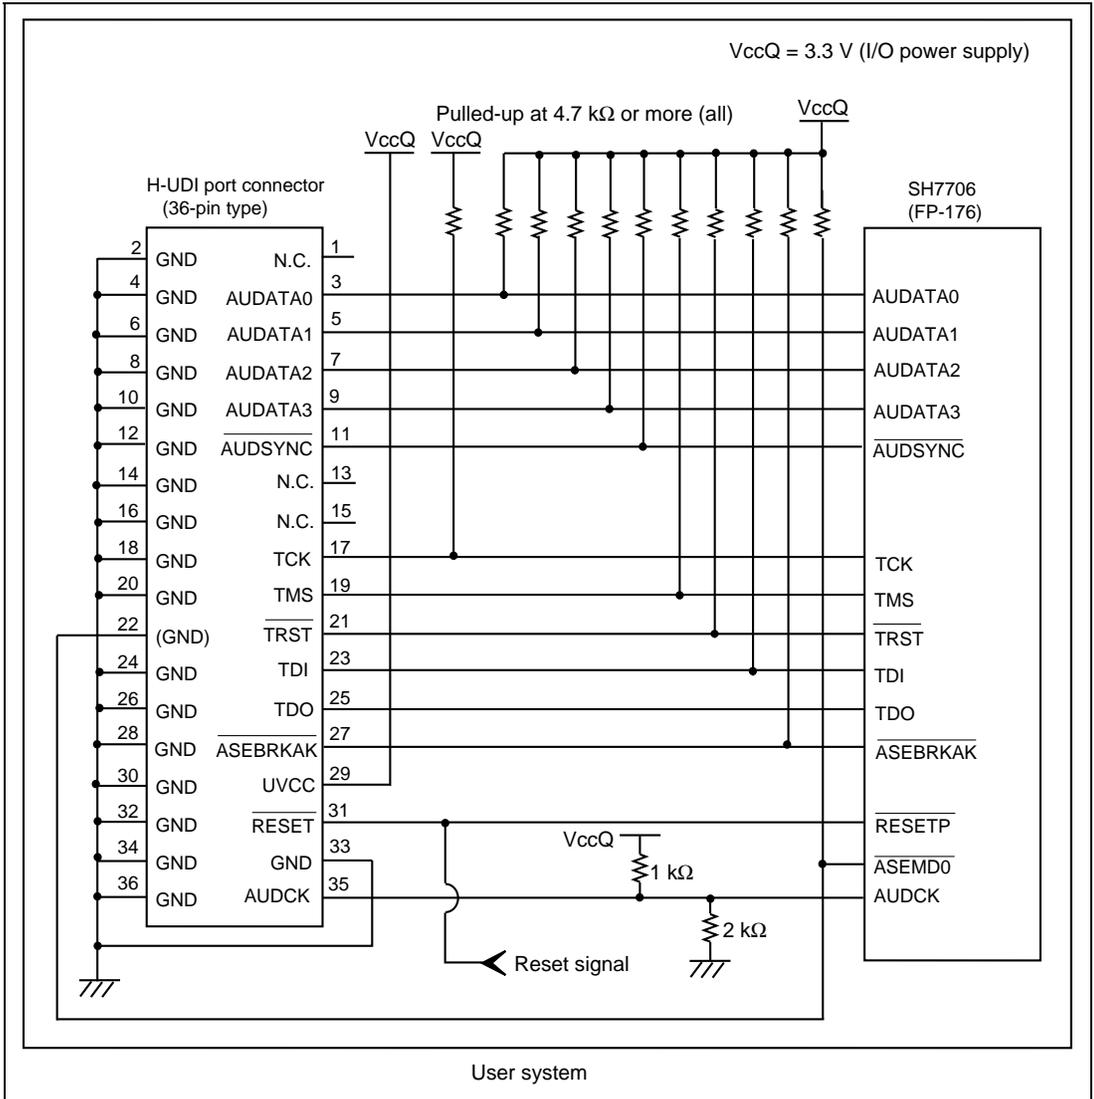
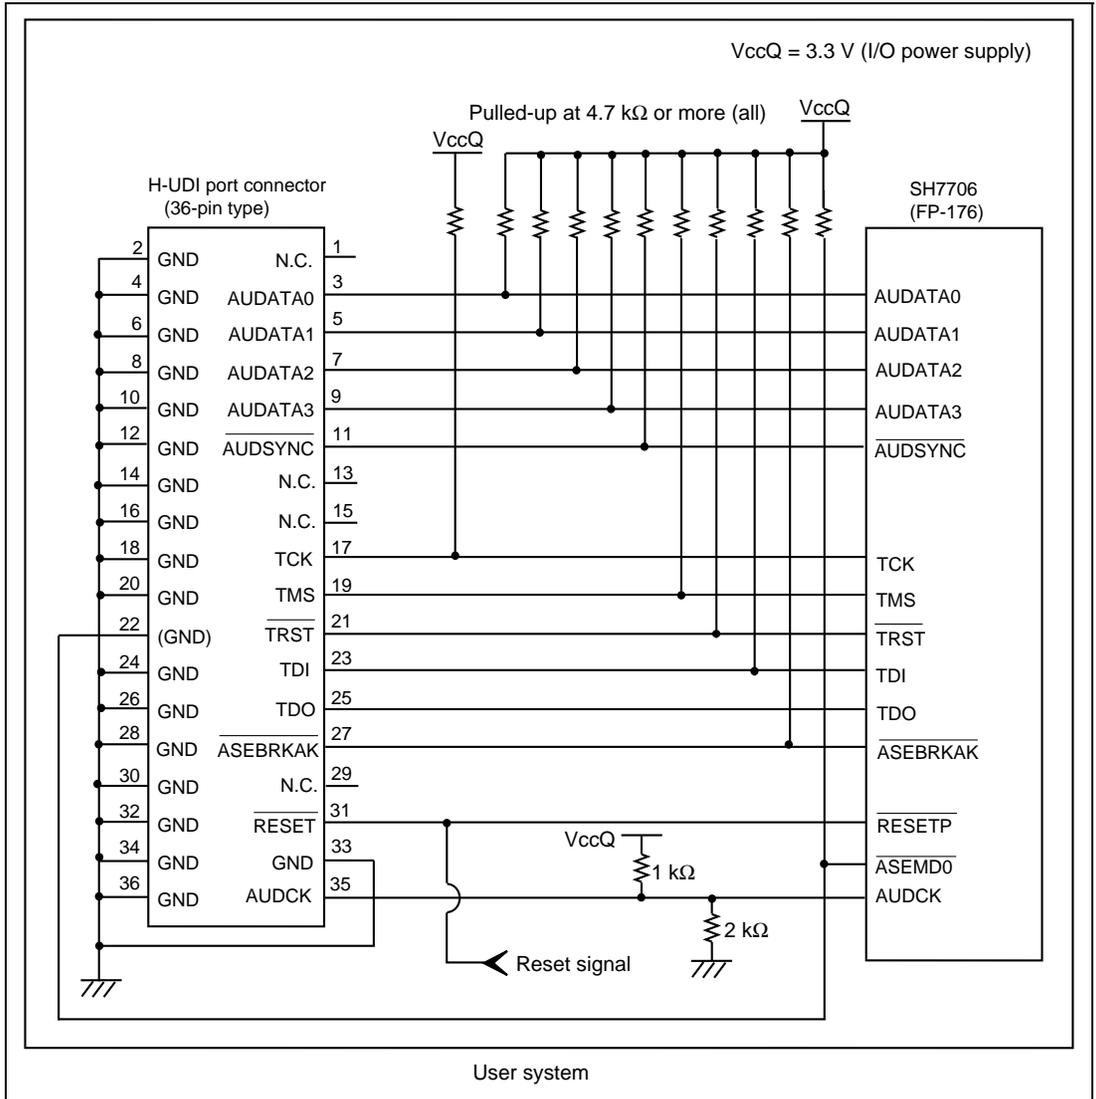

Figure 1.3 Recommended Circuit for Connection between the H-UDI Port Connector and MPU when the Emulator is in Use (36-Pin Type UVCC Connected)
Figure 1.4 Circuit for Connection between the H-UDI Port Connector and MPU when the Emulator is in Use (36-Pin Type UVCC Not Connected*)
Figure 1.3 shows a recommended circuit for connection between the H-UDI and AUD port connectors (36 pins) and the MPU when the emulator is in use. Figure 1.4 shows a circuit for connection when UVCC is not connected.
- (1) When the emulator is used: /ASEMD0 = 0 (ASE mode)
- (2) When the emulator is not used: /ASEMD0 = 1 (normal mode)Figures 1.3 and 1.4 show examples of circuits that allow the /ASEMD0 pin to be GND (0) whenever the emulator is connected by using the user system interface cable. When the /ASEMD0 pin is changed by switches, etc., ground pin 22. Do not connect this pin to the /ASEMD0 pin.
5. When the power supply of the user system is turned off, supplying VccQ of the user system to the UVCC pin reduces the leakage current from the emulator to the user system. A level shifter that is activated by the internal power supply or user power supply (changed by the switch) is installed in the interface circuit of the emulator. If the user power is supplied to the UVCC pin, the level shifter is not activated as long as no user power is supplied. When the power supply of the user system is turned off, no current flows from the user interface. The I/O voltage level of the user system interface can be the same as that of the VccQ. To operate the emulator with low voltage (lower than 3.3 V), the VccQ must be supplied to the UVCC pin. Make the emulator's switch settings so that the VccQ will be supplied (SW2 = 1 and SW3 = 1) (as shown in figure 1.3).
6. The resistance values shown in figures 1.3 and 1.4 are recommended.
When the circuit is connected as shown in figure 1.3, the switches of the emulator are set as SW2 = 1 and SW3 = 1. For details, refer to section 3.8, Setting the DIP Switches, in the Debugger Part of the SuperH™ Family E10A-USB Emulator User's Manual.
When the circuit is connected as shown in figure 1.4, the switches of the emulator are set as SW2 = 0 and SW3 = 1. For details, refer to section 3.8, Setting the DIP Switches, in the Debugger Part of the SuperH™ Family E10A-USB Emulator User's Manual.